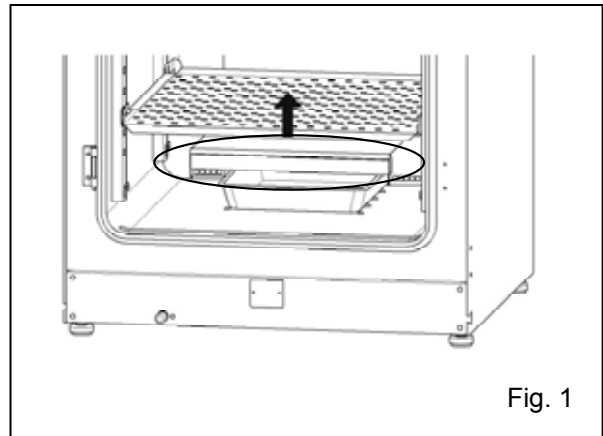

Fig. 1
2. Open the outer and inner doors and pull out the all trays. (See Fig. 1.)
1. Lift the humidifying pan cover. (See Fig. 1.)
3. Pour one bottle of H2O2 Decontamination Reagent (MCO-H2O2) into the H2O2 Generator. Set the two pins on the H2O2 Generator in the 2 holes on the lower left side of the duct (Fig. 1).
4. Connect the H2O2 Generator and connector on the bottom right of the far side of the chamber with the enclosed cable. Be sure to keep the connector cap (Fig. 1).